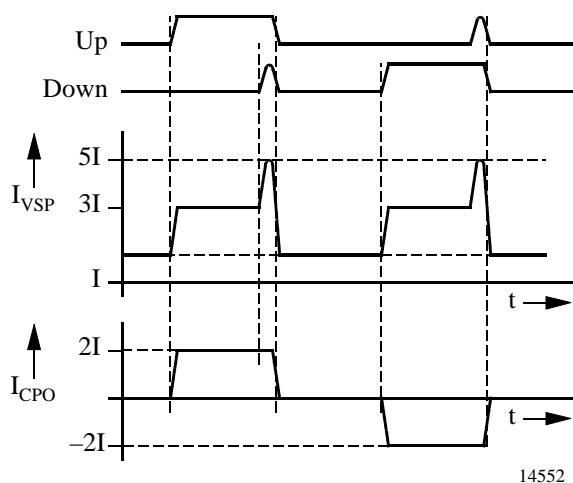
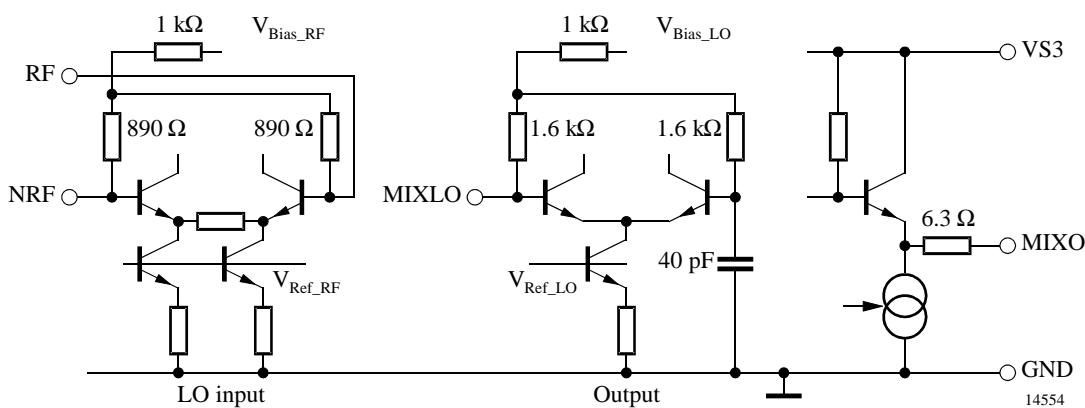

Figure 3. Supply current of the charge pump = f(t)
Figure 6. Mixer
1) Mean value measured with F_{ND} = 151 MHz, F_{RD} = 150 MHz, current vs. time, see page 6, figure 3.
Due to the pulsed operation of the charge pump, the current into the charge-pump supply pin V_{SP} is not constant. Depending on I (see figure 6) and the phase difference at the phase detector inputs, the current I_{VSP} over time varies. Basically, the total current is the sum of the quiescent current, the charge-/discharge current, and – after each phase comparison cycle – a current spike (see figure 3).